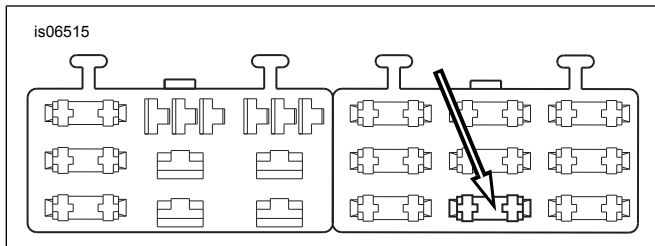

Figure 9. "OPEN" Fuse Block Cavity (2004 and Later Dyna) 2003 and Earlier Softail Models
4. See Figure 9. Locate the fuse cavity (1) indicated as "OPEN" on the fuse block cover in the right fuse block. Insert the terminal on the orange/white adapter wire until it stops. Refer to a nearby factory installed terminal for comparison to verify proper orientation and depth.